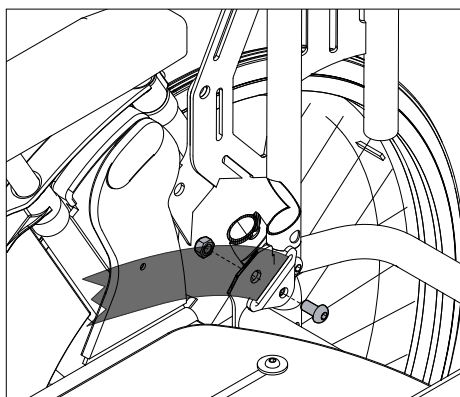

Figure 54
- Assemble the hip belt as illustrated in Figure 54.